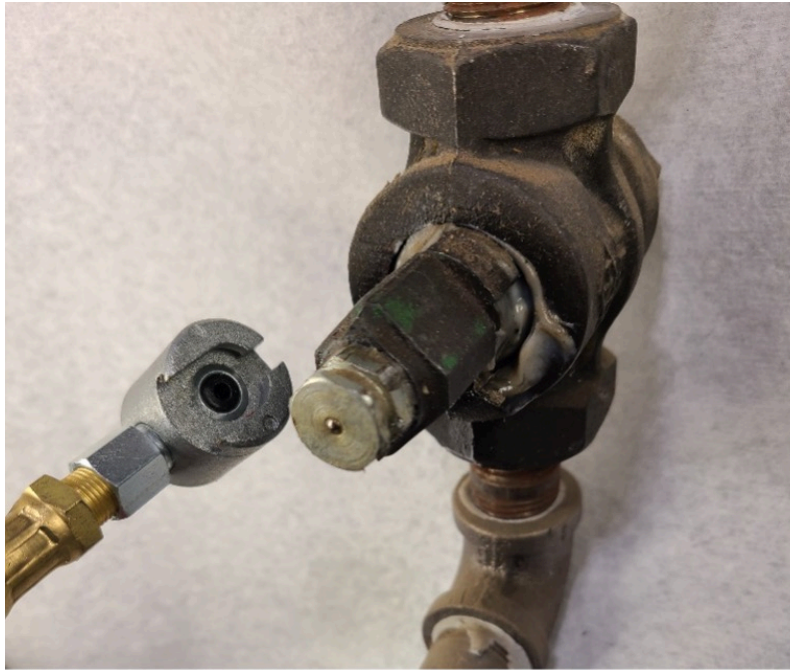

Figure 5. Button head grease fitting and coupler
There are two common methods used to inject the approved lubricating sealant. One method is to use a high-pressure grease gun equipped with a button head coupler (figure 5). The button head grease fittings are a heavy-duty fitting distinguished by their flat low-profile appearance. By pulling onto the button head fitting, the coupler slides over it to give a high pressure no leak engagement.
- Figure 5. “Button head grease fitting and coupler” by Rod Lidstone is licensed under a CC BY-NC-SA licence (<https://creativecommons.org/licenses/by-nc-sa/4.0/deed.en>).